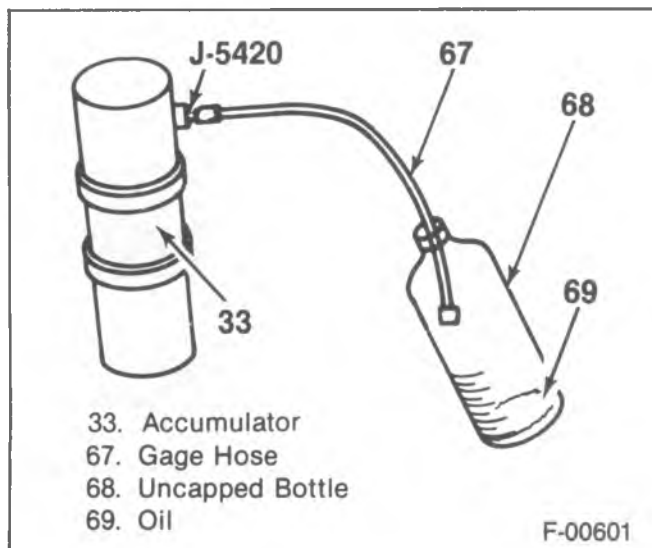

Figure 23—Discharging without Charging Station J-23500-01
- a. If charging station J-23500-01 is not being used, discharge the system by slowly connecting a gage hose to the low side service fitting on the accumulator and discharge into a bottle (figure 23).